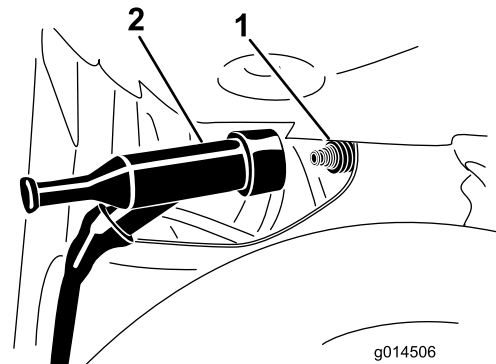

Figure 48
- Pull the spark-plug wire off the terminal of the spark plug (Figure 48).
4. Push the spark-plug wire onto the terminal of the spark plug (Figure 48).